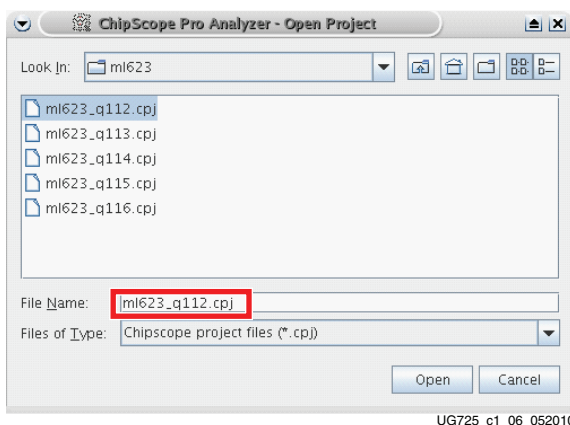

Figure 1-6: Open Project Window
2. When the Open Project window appears, navigate to the location on the host PC where the .cpj project files were extracted, select ml623_q112.cpj and click **Open** (Figure 1-6).